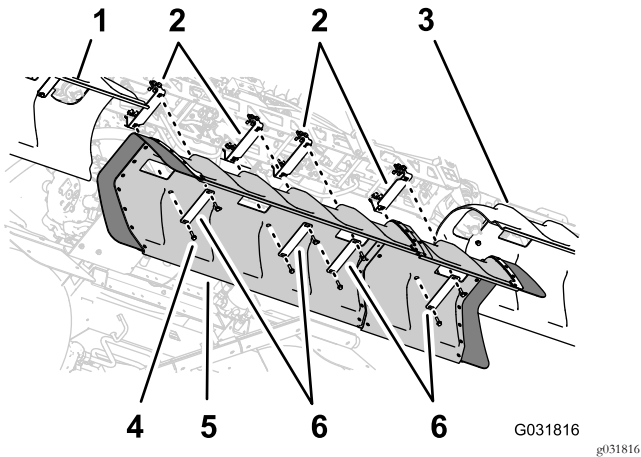

Figure 185
1. Align the holes in the center section cover with the holes in the support brackets for the center section cover (Figure 185).
2. Align the holes in 2 of the cover straps that you removed in step 1 of 6 Removing the Center Section Cover (11-nozzle) of the Optional Covered-Boom Kit (page 13) with the hose in the cover and 2 of the support brackets (Figure 185).
4. Align the holes in the 2 cover straps (Toro Part No. 120-0629) with the 4 remaining hole in the cover and 4 remaining holes in the support brackets (Figure 185).
5. Assemble the cover straps and cover to the support brackets (Figure 185) with the 4 flange-head bolts (5/16 x 1-1/4 inches—Toro Part No. 323-36).